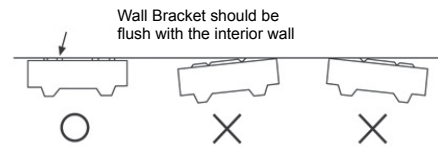
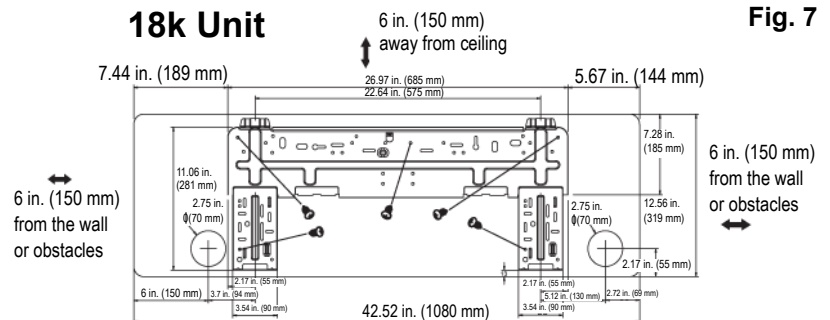

Fig. 5
Fig. 7
- Mount the wall bracket flush on structural parts (studs) of the wall with proper unit clearances in consideration. (Fig. 5, 6 and Fig. 7)